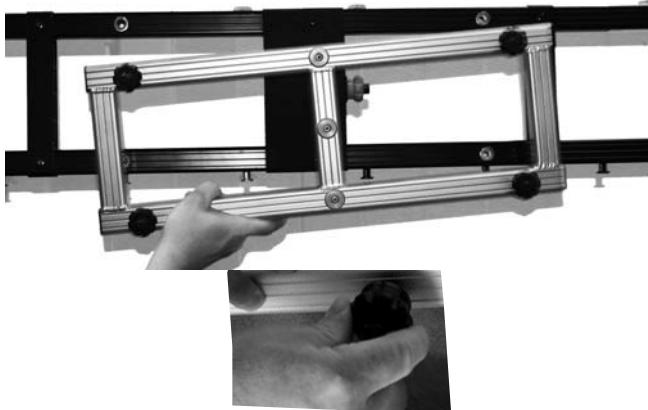

Figure 1
- ① Read instructions through completely before proceeding; retain for future reference.
- ② The order of Stage frame pieces that make up the top and bottom sections must be modified so the frame joints match up to attach the middle leg.
- ③ StageScreens requiring one or more Center Legs are large and heavy, and care must be taken when raising screen into place.
- ④ The screen must be level, and the weight distributed evenly on all legs.
- ⑤ Do not stand beneath the StageScreen as it is being raised to a vertical position.
- ⑥ The ideal temperature range for assembling folding screens to prevent damaging the surface is 68°-78° F (20°-26° C). Assembling below recommended temperatures may damage surface and void warranty.
- ① Assemble and attach outer legs according to the instructions provided with the leg kits.
- ② Determine optimum location for Center Legs. Legs must be placed so Double Stiffeners overlap frame joints. They should be distributed as evenly as possible for proper weight distribution, or to match a multi-image light path.
- ③ Attach Double Stiffeners to StageScreen frame top and bottom (see Fig. 1).